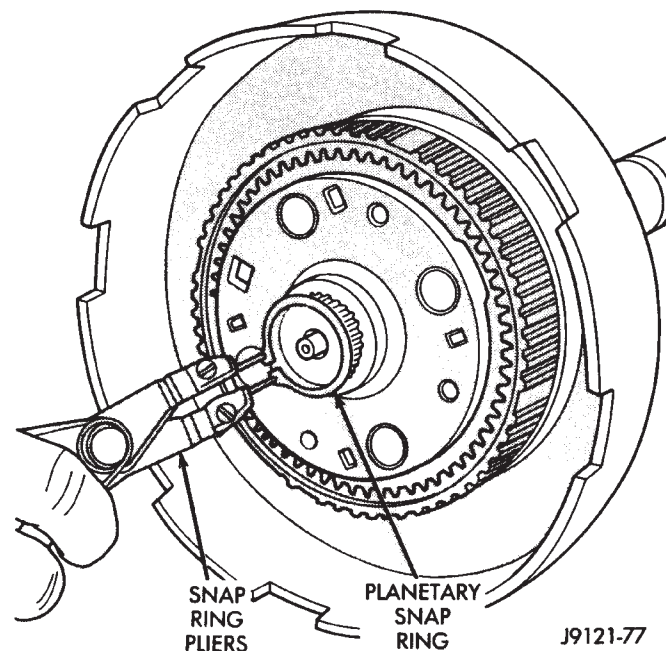

Fig. 88 Installing Planetary Snap Ring—46RH
(13) Place geartrain in upright position. Rotate gears to be sure all components are seated and properly assembled. Snap ring groove at forward end of output shaft will be completely exposed when components are assembled correctly.
(14) Install planetary snap ring in groove at end of output shaft (Fig. 88).